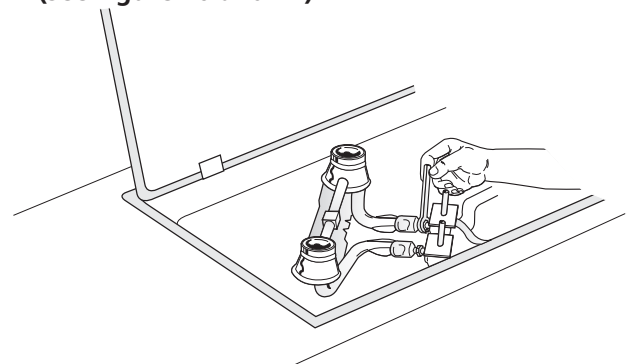

Figure 10
B. Burner Valves Conversion (see figure 10 and 11)